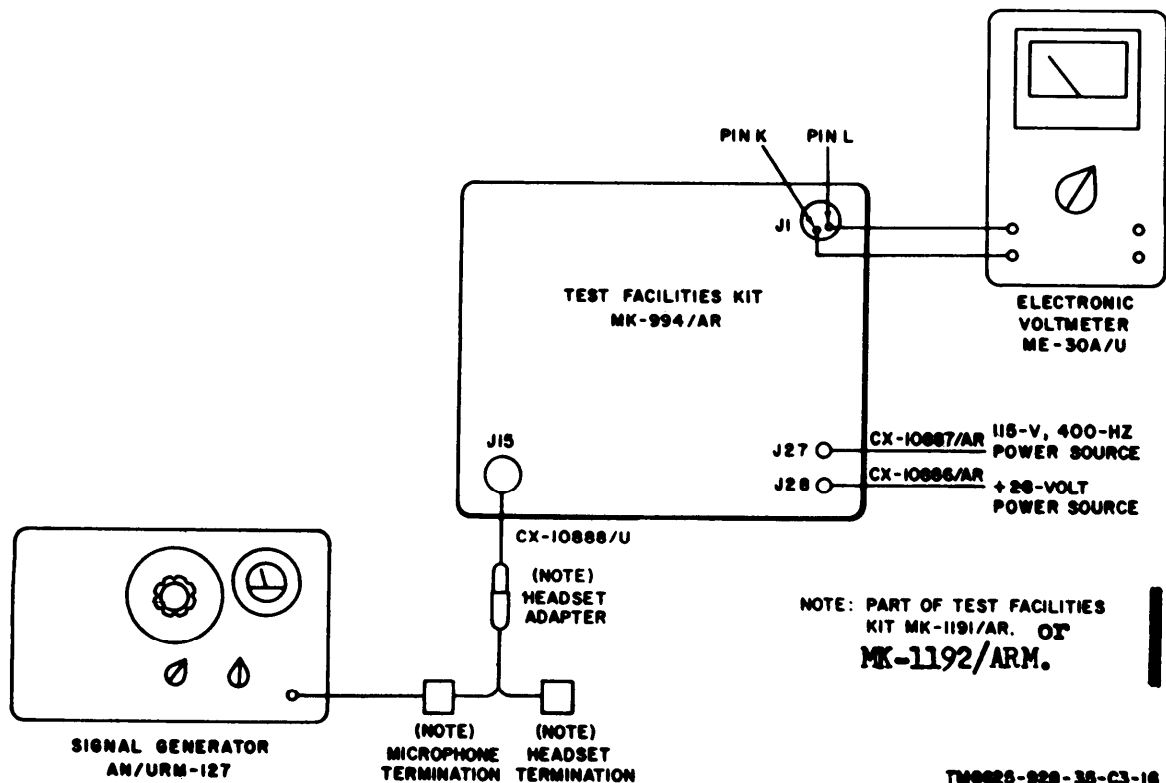

Figure 3-18. Typical test setup.
- (10) Attenuator CN-796()/U.
- (11) 50-ohm BNC adapter from Electronic Voltmeter AN/URM-145.
- (12) Impedance Adapter MX-1487/URM-25D.
- (13) Headset adapter from GS accessories kit.
- (14) Headset termination from GS accessories kit.
- (15) Microphone termination from GS accessories kit.
- (16) Carbon composition resistor, 8,200 ohms, 5 percent, 1/2 watt.
(17) Carbon composition resistor, 510 ohms, 5 percent, 1/2 watt.
(18) Carbon composition resistor, 82 ohms, 5 percent, 1/2 watt.
(19) Carbon composition resistor, 68 ohms, 5 percent, 1/2 watt.
b. Test Connections and Conditions. Tests require that maintenance kit connector P1 be disconnected in certain steps requiring the front panel and the chassis assembly to be removed from the bottom case. For ease of testing, it is advisable to have the front panel and the chassis assembly inserted in the bottom case, but not secured to the case, so that these assemblies may be easily removed from the case when required. When tests require the connection of the GS accessories kit microphone and headset terminations to the headset adapter, connect the red double banana plug from the headset adapter to the microphone termination and the black double banana plug to the headset termination. POWER connector J28 should be connected to the facility +28-volt power source with cable CX-10886/AR to provide the necessary operating dc voltage (fig. 3-18).